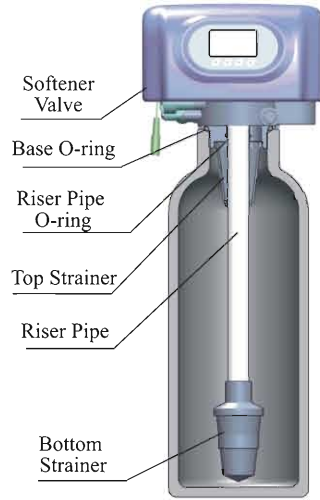

Figure1-1
- ① The filter or softener should be located close to drain.
- ② Ensure the unit is installed in enough space for operating and maintenance.
- ③ Brine tank need to be close to softener.
- ④ The unit should be kept away from the heater, and not be exposed outdoor. Sunshine or rain will cause the system damage.
- ⑤ Avoid to install the system in circumstance of Acid/Alkaline, magnetic or strong vibration, because above factors will cause the system disorder.
- ⑥ Do not install the filter or softener, drain pipeline in circumstance which temperature may drop below 5°C, or above 50°C.
- ⑦ One place is recommended to install the system which cause the minimum loss in case of water leaking.
① Install control valve
- a. As the Figure 1-1 shows, select the riser pipe with 26.7mm OD, glue the riser pipe to the bottom strainer and put it into the resin tank, cut off the exceeding tube out of tank top opening. Plug the riser tube in case of mineral entering.